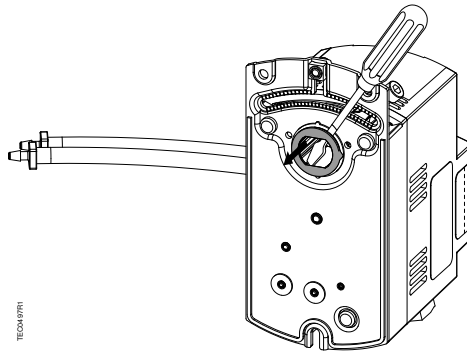

Figure 3. Removing the 1/2-inch Shaft Guide.
- a. Remove the 1/2-inch shaft guide, Figure 3.